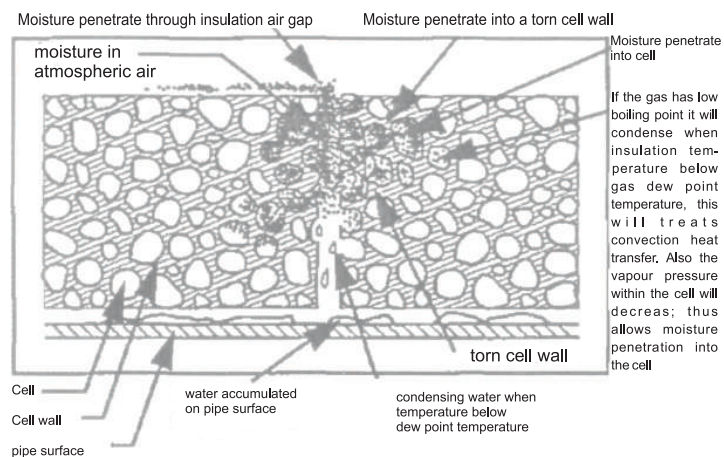

FIGURE 11
4) **Closed Cell Type:** This type of insulating material is produced mostly from synthetic rubbers or a combination of synthetic rubbers and plastics (both are often referred to as Elastomers); which contains a great number of tiny singular closed cells. A single cell is enclosed by a wall, each cell contains a dry gas emitted from a blowing agent which through close control is made to produce a singular closed cell. Insulators made from elastomer materials have high resiliency and characteristically conform to closed cells. The walls of the cells act as an impenetrable wall against moisture as illustrated in Figure 11.